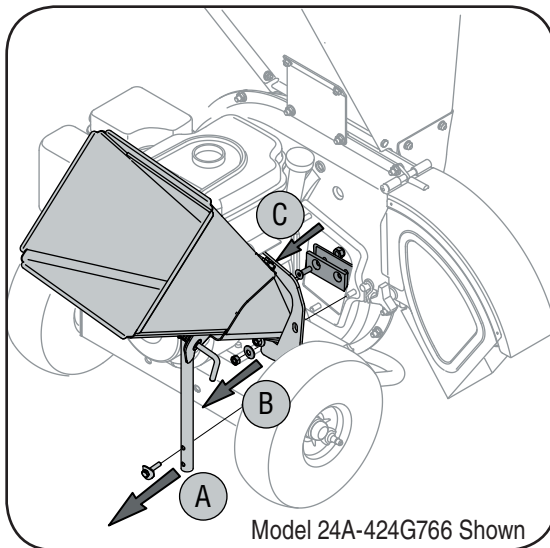

Figure 9
- a. Remove the chipper chute support brace from the frame by removing the two hex bolts and saddle washers which secure it. See Figure 9.
- b. Remove the chipper chute by removing three hex nuts and washers which secure it to the impeller housing. See Figure 9.